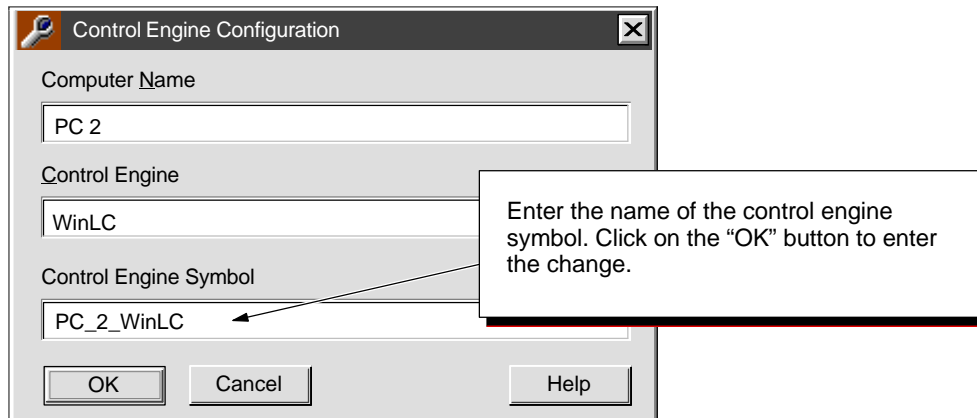

Figure 9-10 Configuring a Control Engine for Remote Access
3. As shown in Figure 9-10, enter the name of the control engine symbol in the “Control Engine Symbol” field. For example, the name of the control engine symbol shown in Figure 9-10 could be changed to PC2WinLC.